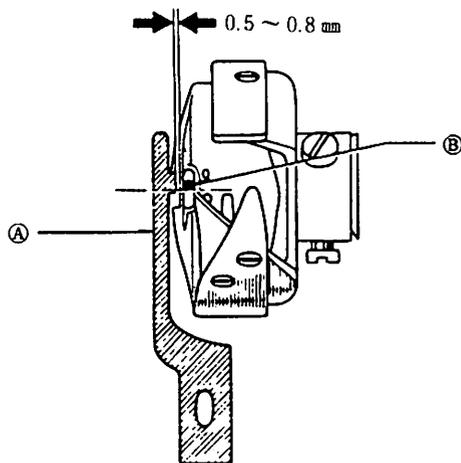

Fig. 10.6
The hook positioner (A) should be adjusted so that the side surface of needle (B) is aligned with the point of hook positioner (A) as shown in Fig. 10.6.